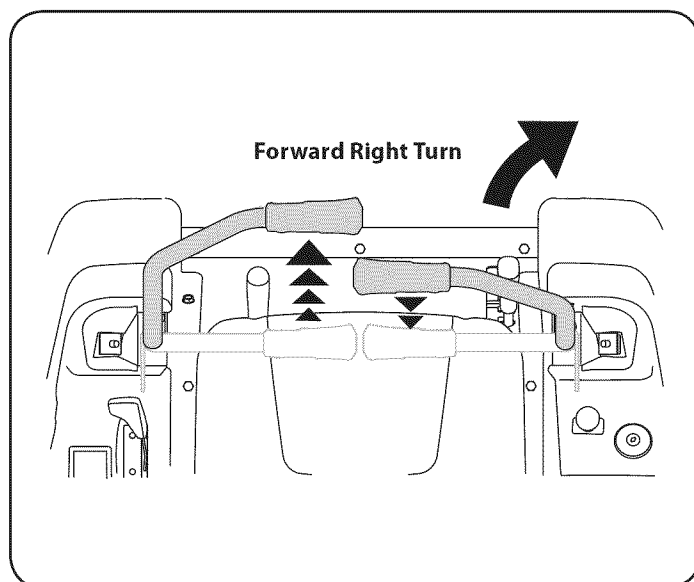

Figure 16
2. To turn to the right, move the right drive control lever rearward of the left lever. See Figure 16.